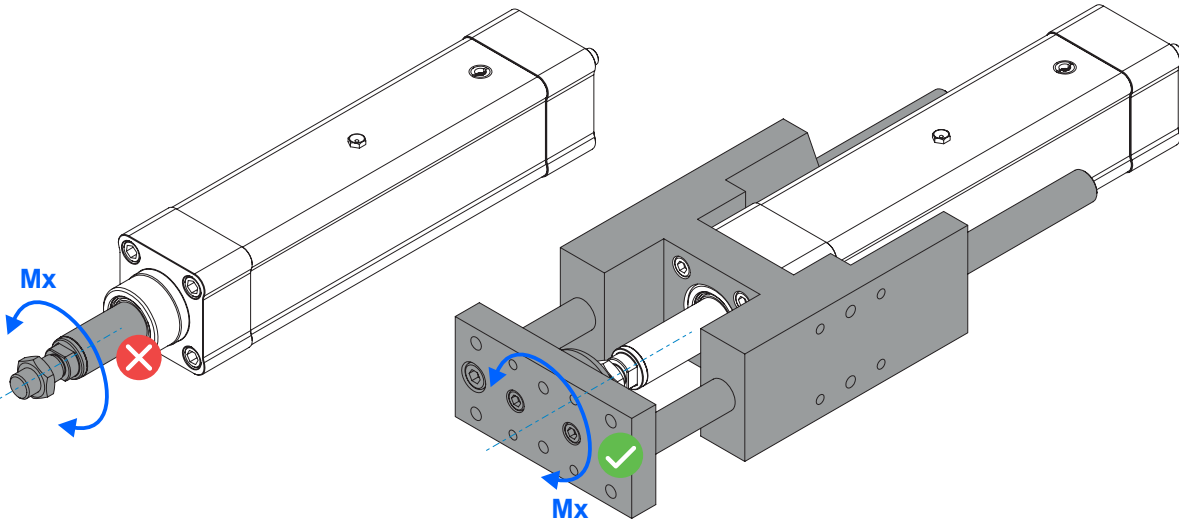

Figure 8: Piston rod subjected to torsional moment M_x .
-  The piston rod must not be subjected to torsional moment. In the case of the presence of any torsional loads, the GUH guiding unit might be used, see Figure 8.